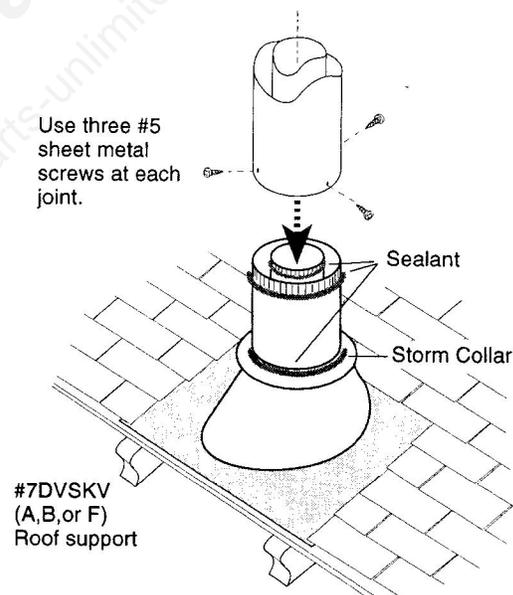

Figure 41. Roof support and flashing.
7. Install the appropriate roof support and flashing, making certain that the upper flange of flashing is below the shingles. See Fig. 41.
9. Install the Storm Collar and seal around the joints. See Fig. 41.